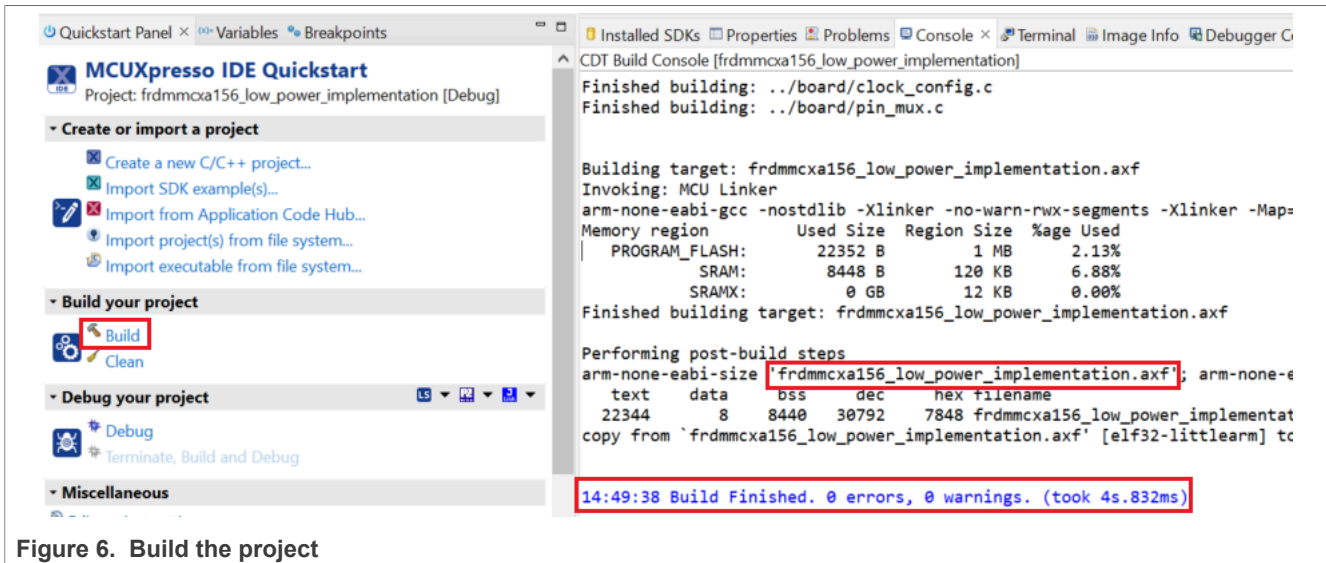

Figure 6. Build the project
- As shown in Figure 6, click **Build** button from the toolbar, then wait for the build to complete.